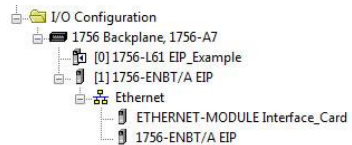

Figure 38: I/O Configuration Tree
- 6) After adding the I/O Module to the configuration, the full I/O Configuration tree should appear similar to Figure 38.